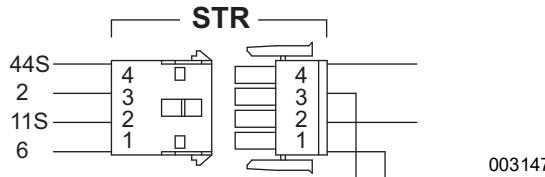

Figure 2-15. Stator Connector (STR) Pin Locations
1. See **Figure 2-15**. Disconnect the STR connector located in the wire harness.
- See **Figure 2-15**. Disconnect the STR (stator) connector on the harness.